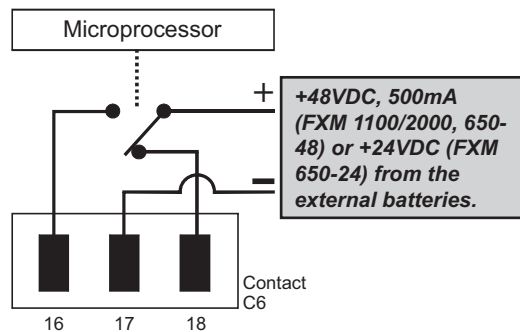
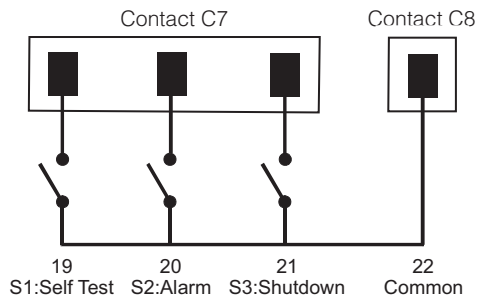

Figure 4 — 48 VDC / 24 VDC Contact Layout (De-energized Shown, Factory Default for C6)
Figure 5 — User Input Layout
For Contact C6, the default factory configuration is +48 VDC output (FXM 650-24 is +24 VDC), but it can be factory configured as a dry contact. Figure 4 shows the contact's layout while Figure 5 shows the +48 VDC or +24 VDC terminal block layout.
**User Input (C7):** This relay has three contacts that are used to control the Alpha FXM (Figure 5). They are:
**22 (C):** Isolated return for contacts S1, S2 and S3. It is located on contact C8 (#22).